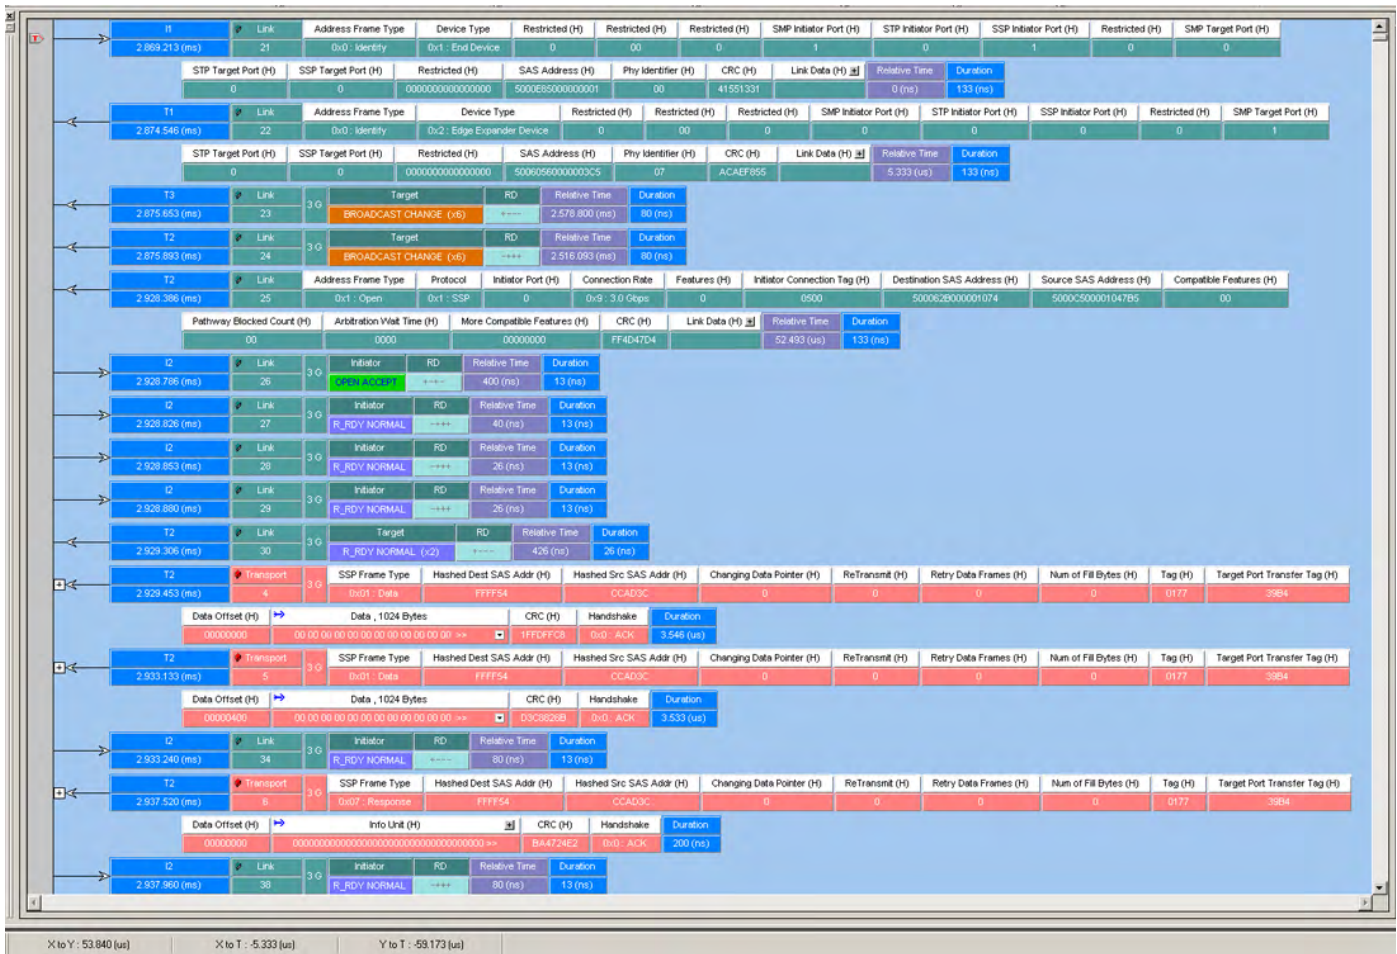

Figure 2.16: SAS: Analyzer Trace Capture Display
- After the project runs, you see an analyzer trace capture display similar to the one shown in Figure 2.16.